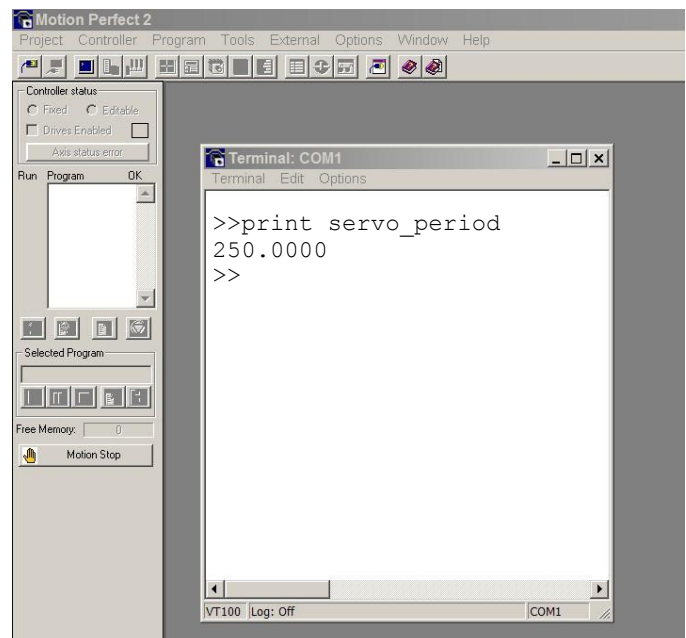

Fig 6 – Verifying SERVO\_PERIOD after power cycle
6. After power-up, verify SERVO\_PERIOD at the Command prompt ">>" in *Motion Perfect2*, Fig. 6.